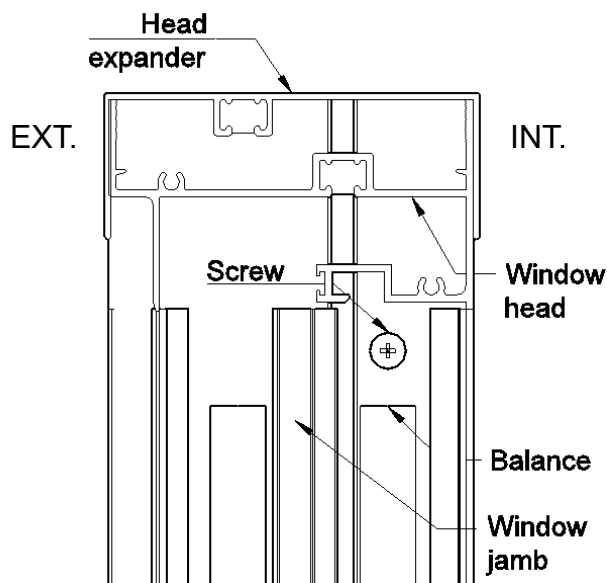

Figure 11: Side View of Jamb on Top
2.4 Remove the stop on the top of window jamb, then fasten the jamb through the installation hole on both sides (refer to figure 11), and reinstall the stops. Notice: do not over tighten the fasteners to distort the frame, and do not drill on the window sill/head to avoid water infiltration.